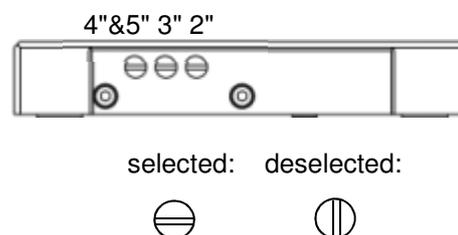

Figure 7: Vacuum region selection
The four center vacuum suction holes are always active when the vacuum is switched on, holding down small substrates. For substrate sizes of 2" or larger, additional vacuum region extensions can be added using the vacuum field selection screws (4) (see right part of Figure 5, and Figure 7). Switch on the vacuum with the vacuum switch (5). Check whether the plate is really held tight by trying to move it slightly sideways. If plate is not held, switch off the vacuum and clean plate backside and chuck before trying again. If problems persist, use a different substrate.
6. Remove all alignment pins. Close the cover lid (1) and make sure the interlock lamp (10) is off.